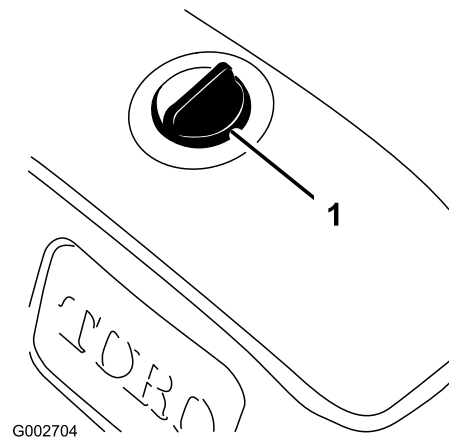

Figure 15
1. Clean the area around the hydraulic oil reservoir cap to prevent debris from entering tank (Figure 15).